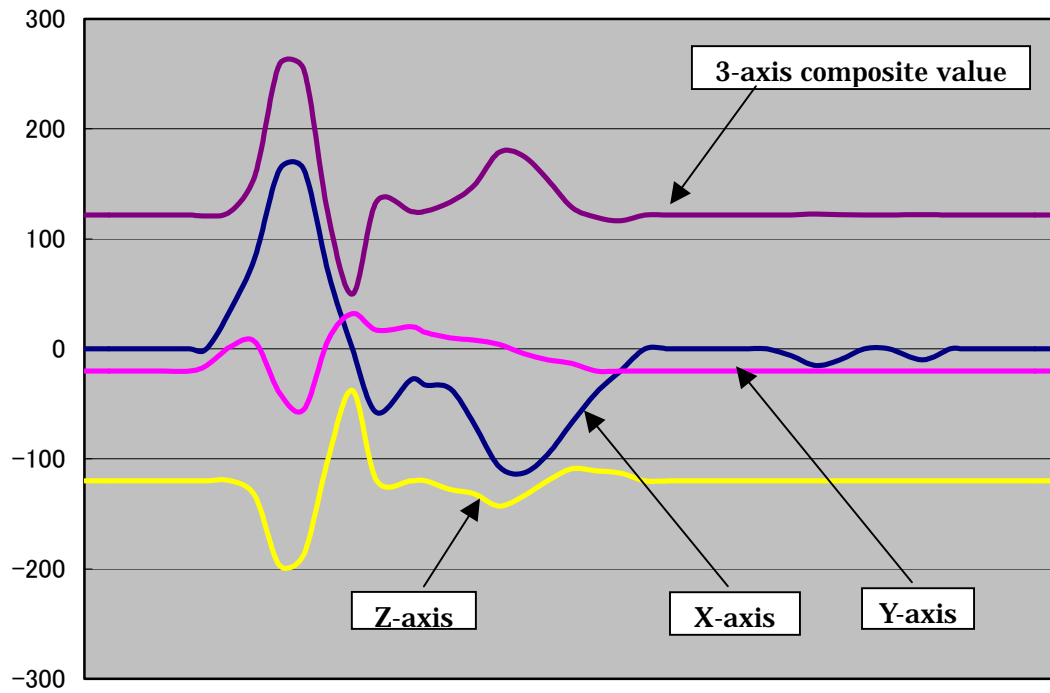

Figure 14 Data graph when moving a sensor
- Movement (Figure 14 Data graph when moving a sensor)